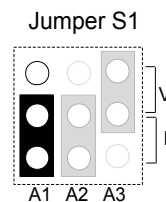

Figure 4.12 Terminal A1 Set to Current Input
4. Set the drive to accept current based (4 to 20 mA) Feedback Set the A1 terminal of Jumper S1 to current type input (I) as shown in Figure 4.12. Set parameter H3-01 to 2 (4 to 20 mA) for signal type on A1. Set parameter H3-02 to 23, function of the A1 input, Well Level feedback